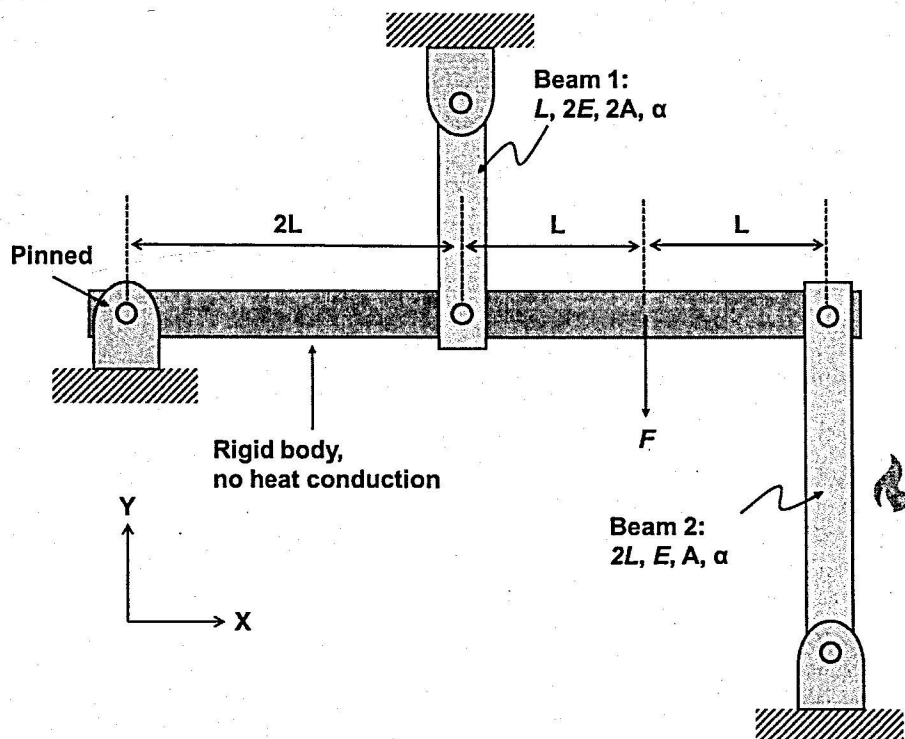

Fig. 5
4. [25 Points] Refer to Fig. 5. A rigid bar is pinned at its left end and is pinned to two elastic beams, Beam 1 and Beam 2, at the middle and the right end, respectively. For Beam 1, the length, Young's modulus, cross-sectional area, and coefficient of thermal expansion are denoted as L , $2E$, $2A$, and α , respectively. For Beam 2, the length, Young's modulus, cross-sectional area, and coefficient of thermal expansion are denoted as $2L$, E , A , and α , respectively. A point load F is applied to the rigid bar at a position L away from the right end, directed in the negative Y-direction. The temperature of Beam 2 is increased by a temperature change of ΔT , while the temperature of Beam 1 remains constant. Assume *small rotations* of the rigid bar and that *no heat conduction* occurs between the beams. **Determine the axial stresses in Beam 1 and Beam 2.** Express your answers in terms of F , L , E , A , α , and ΔT .